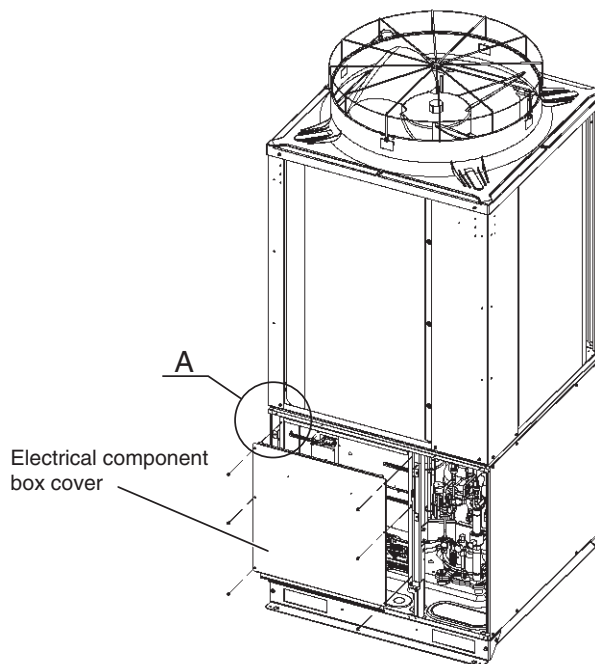

Fig. 3
- (1) Remove the electrical component box cover (remove 6 screws). (Fig. 3)